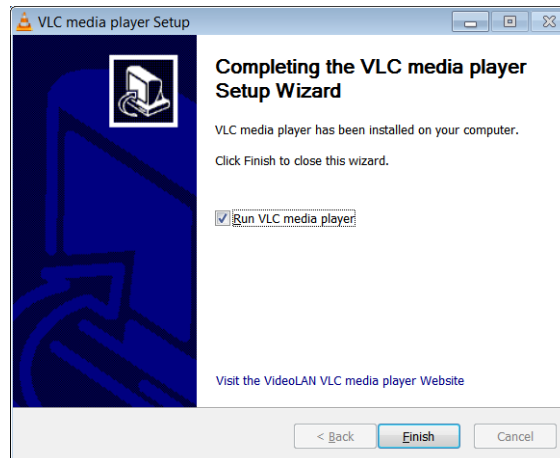

Fig. F-37: MV-800-DT Multiviewer Video Wall
6. A completion screen is shown when VLC is installed. See Fig. F-37:.